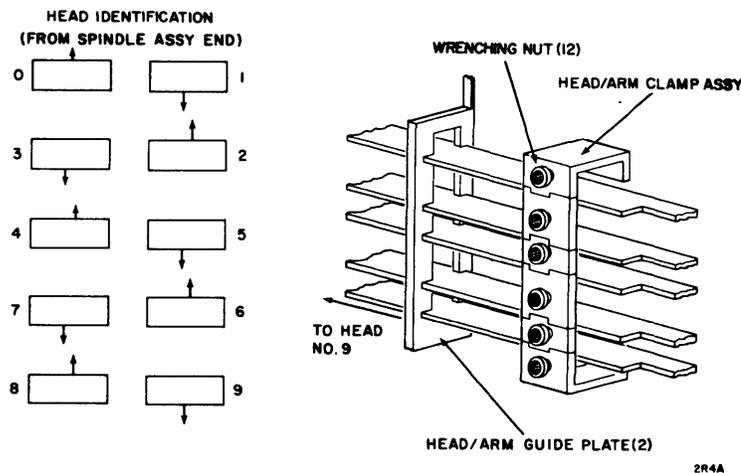

Figure 6-7. Head/Arm Assembly Adjustment
3. Determine the faulty head. Refer to Figure 6-7 for the physical location of the head.
5. Loosen the wrenching nuts immediately above and below the faulty head/arm (Figure 6-7).
5. Loosen the 12 wrenching nuts (Figure 6-7) through the head/arm clamp.
6. Note the orientation of the head arms and mark the arms. Refer to Figure 6-7 for head identification.
11. Referring to Figure 6-7 and step 6, carefully thread the connector plug for a head/arm assembly through the head/arm guide plate and clamp. Slide the head/arm into the slots in the guide plate and back to the head/arm locating block. Thread the head/arm cables through the cable retainer connected to the head latch assembly. Repeat this procedure for each of the nine remaining head/arm assemblies. Tighten the 12 wrenching nuts in the head/arm clamp.